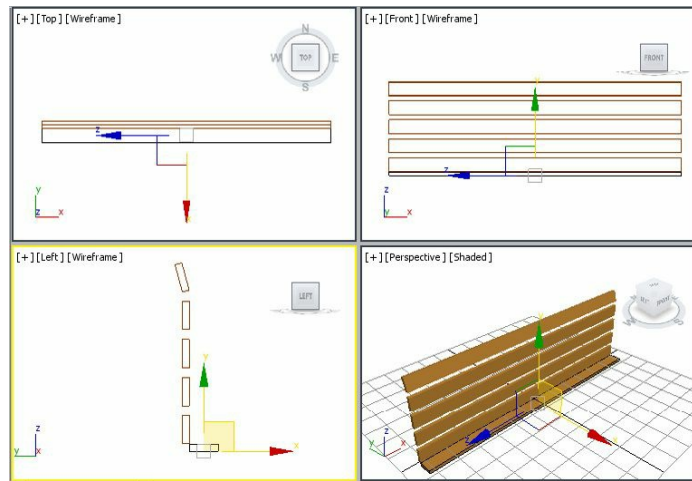

Figure 2-70 Alignment of *horizontal seat support001* in viewports
- Choose the **Select and Move** tool from the **Main Toolbar** and align *horizontal seat support001* with *horizontal back support* in viewports, refer to Figure 2-70.